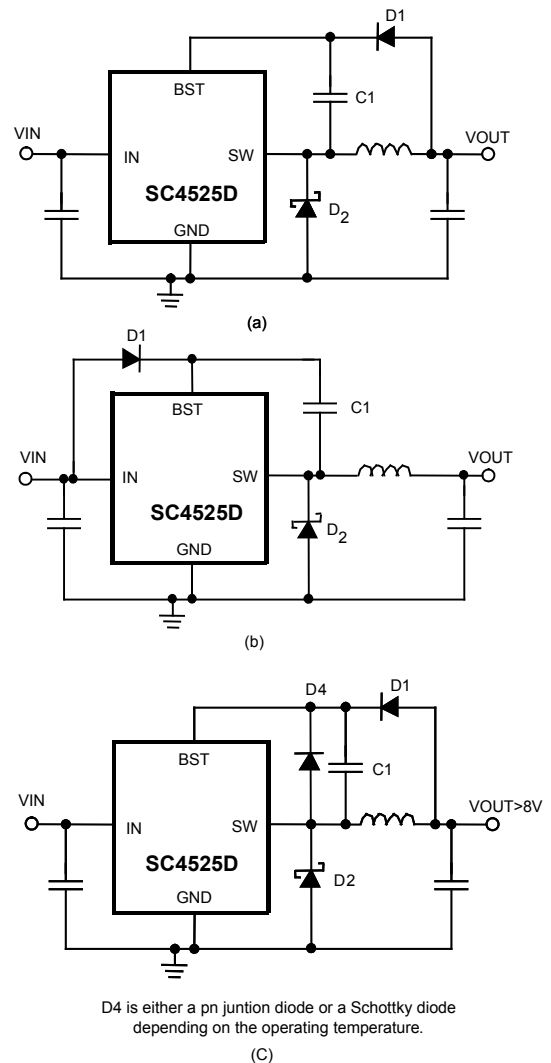

Figure 6. Methods of Bootstrapping the SC4525D
The BST-SW voltage is supplied by a bootstrap circuit powered from either the input or the output of the converter (Figure 6(a), 6(b) and 6(c)). To maximize efficiency, tie the bootstrap diode to the converter output if $V_o > 2.5V$ as shown in Figure 6 (a). Since the bootstrap supply current is proportional to the converter load current, using a lower voltage to power the bootstrap circuit reduces driving loss (Equation (11), page 14) and improves efficiency.
For the bootstrap circuit, a fast switching PN diode (such as 1N4148 or 1N914) and a small ($0.33\mu F - 0.47\mu F$) ceramic capacitor is sufficient for most applications. When bootstrapping from 2.5V to 3.0V output voltages, use a low forward drop Schottky diode (BAT-54 or similar) for D_1 . If $V_{OUT} > 8V$, then a protection diode D_4 between the SW and the BST pins will be required as shown in Figure 6 (c). D_4 can be a small PN diode such as 1N4148 or 1N914 if the operating temperature does not exceed 85 °C. Use a small Schottky diode (BAT54 or similar) if the converter is to operate up to 125 °C.